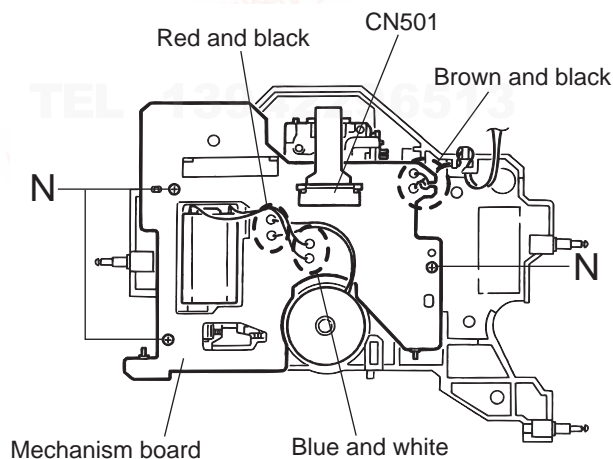

Fig.12
3.2.10 Removing the mechanism board / pickup assembly (See Fig.12 to 15)